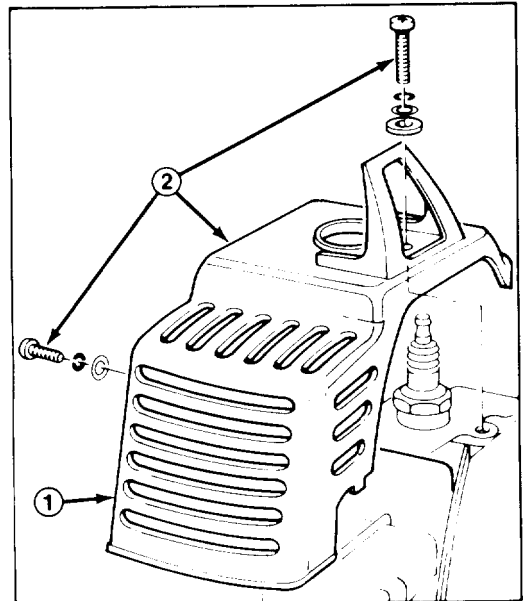

Figure 14
**SERVICING MUFFLER (Fig. 14 & 15)**
1. Remove three (3) screws securing muffler cover to trimmer (Fig. 14).